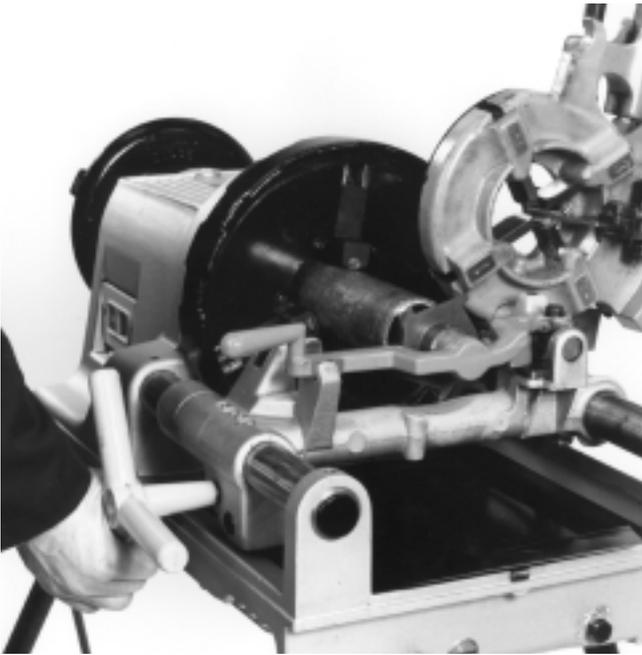

Figure 6 – Reaming Pipe with No. 743 Reamer
(Figure 6)
1. With cutter and die head in their **UP** position, swing reamer into its operating position.(Figure 6)